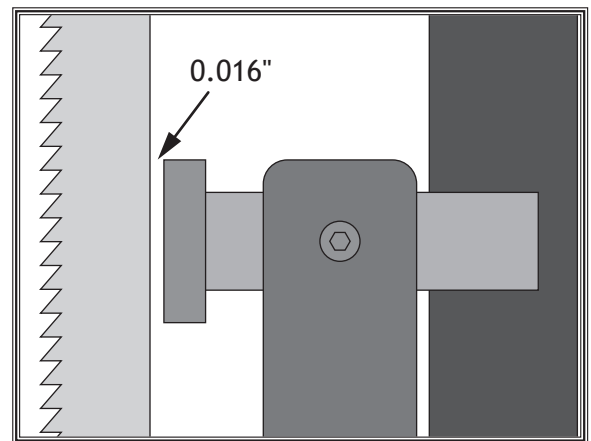

Figure 45. Bearing positioned approximately 0.016" away from back of blade.
3. Position support bearing approximately 0.016" away from back of blade, as illustrated in **Figure 45**.
Note: The roller discs should be positioned behind the gullets at a distance equal to that of the support bearing behind the blade (see **Figure 45** on **Page 34**).